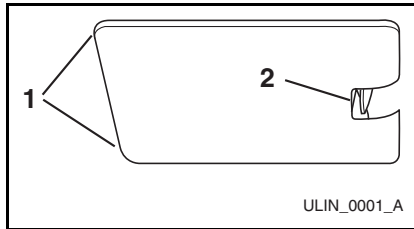

Figure 16
1. Grasp the edges of the light housing lens (**Figure 16, 1**) opposite the exposed tab and gently push the lens toward the tab (**Figure 16, 2**).
2. Pull the edge of the lens down (**Figure 16, 1**) and swing it out of the light housing.